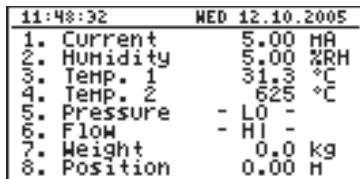

Fig. 6.9. "Channels list" mode (values)
- "Channels list" mode (Fig. 6.9, 6.10) enables the measurement results for all active measurement channels to be viewed in numeric or graphic (bar) form.